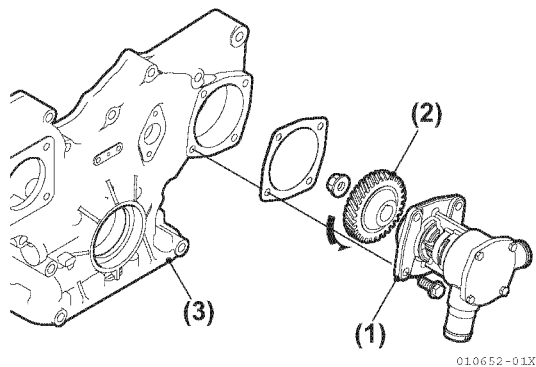
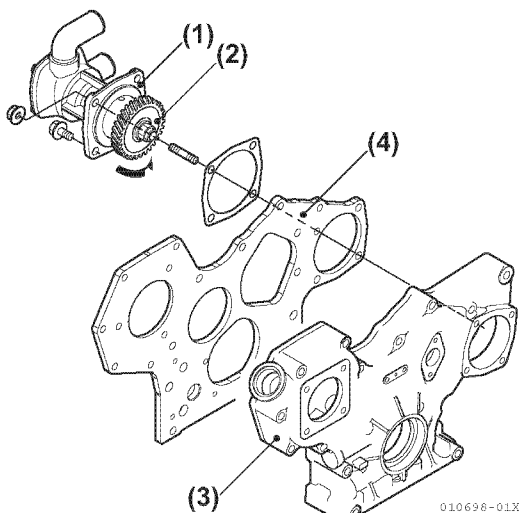

Figure 5-26
Figure 5-27
22. Remove the seawater pump from the gear case (Figure 5-26) and (Figure 5-27).